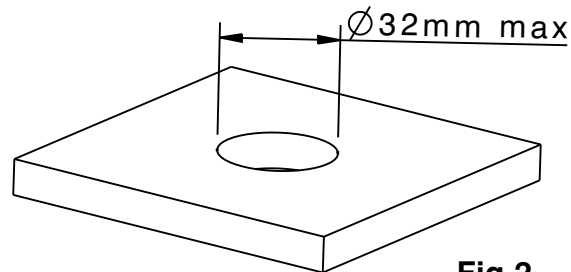

Fig.2
- 1) Hob lining hole should be cut or finished as per the dimensions shown (Fig.2).